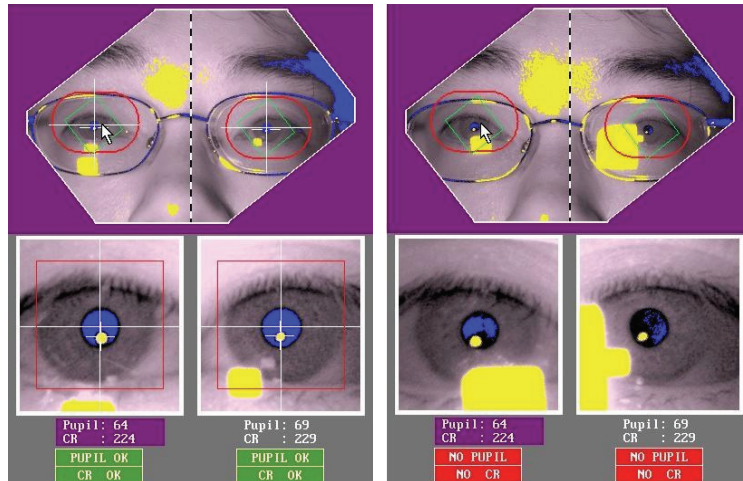

Figure 3-15. Camera Setup with Subjects Wearing Glasses (Desktop Mount – Camera Angled).
20) Once the camera is set up, the experimenter should monitor the thumbnail camera images at the lower left corner of the tracker screen when in the Offline, Calibrate, Validate, Drift Correct, Output and Record screens (see Figure 3-15). The two dots in the middle panel reflect the ever changing target and eye position in the global camera image. For reliable tracking, both dots should stay within the red box. If they fail to do so, adjustment of the camera's view of the subject is advised.